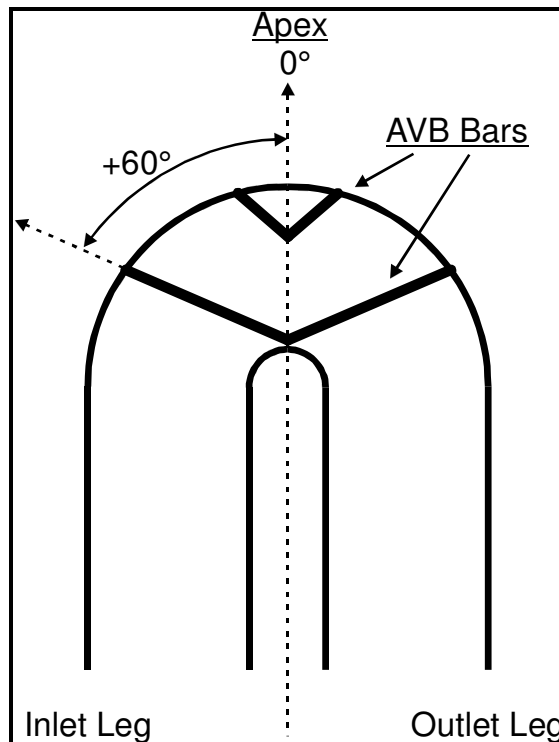

Figure 26. Understanding the ANGLE Value for UBEND Landmarks, i.e., AVBs
- ❑ **ANGLE:** Enter the angle where a UBEND landmark, i.e., AVB, intercepts the UBEND. This angle value is measured as either a positive or a negative value in reference to the centerline of the tube bundle. The vertical centerline is considered 0° . As shown in Figure 26, positive values correspond with landmarks on the inlet side of the centerline while negative values coincide with landmarks on the outlet side of the centerline. This setting works with the FIRST and LAST values discussed below.